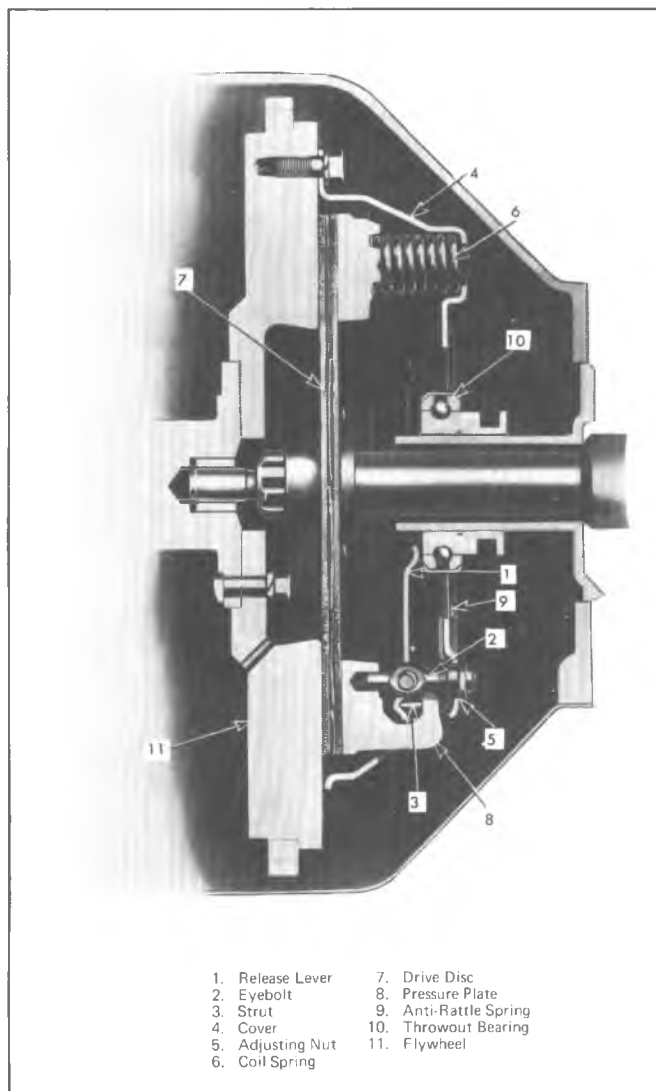

Fig. 7C-1E--Coil Spring Clutch Cross-Section (Single Plate)
8. Lower the cover on top of the assembled parts, as in Fig. 7C-10E. Be sure that the anti-rattle springs are in correct position and also that the punch marks made before